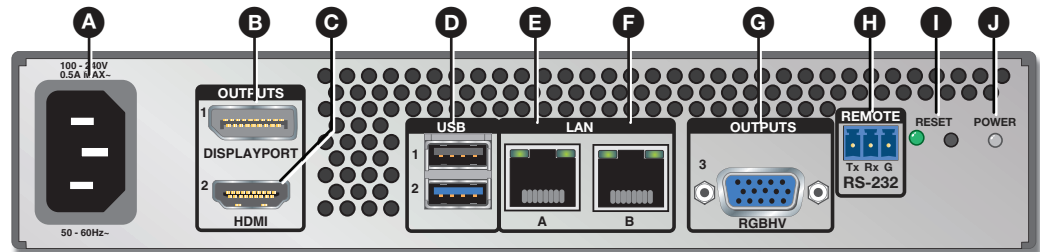

Figure 6. VNM EC 201 Rear Panel
- B SSD Drive** — This removable drive holds the operating system (OS) and software required for operation.
- C Status LEDs** — Four LEDs provide the status of the VNM EC 201 (see figure 6).
The rear panel of the VNM EC 201 is shown in figure 6.
- Remove the power input (see figure 6, **A**) and plug it back in.
The **Reset** button on the rear panel (see figure 6, **J** on the previous page) returns the EC 201 to default states depending on the reset mode. As shown in the reset mode summary, each reset affects different configurations and local files, resetting some to default condition and retaining others. The reset modes are used when the device IP address has been forgotten, when improper operation is detected, and to start a new configuration.